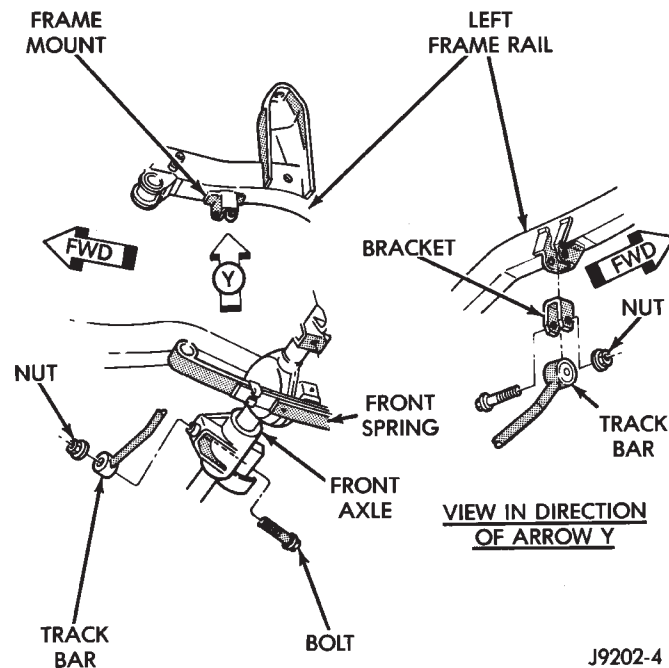

Fig. 1 Track Bar
- (1) Raise and support the vehicle.
- (2) Remove the retaining nuts and bolts (Fig. 1) from the axle bracket and frame bracket. Remove track bar.
- (1) Position track bar at axle shaft tube bracket. Loosely install the retaining bolt and nut (Fig. 1).
- (2) Loosely install the retaining bolt and nut at the frame bracket.
- (3) Remove support and lower vehicle.
- (4) Tighten the retaining nut at the axle shaft tube bracket to 100 N·m (74 ft. lbs.) torque.
- (5) Tighten the retaining nut at the frame bracket to 142 N·m (105 ft. lbs.) torque.